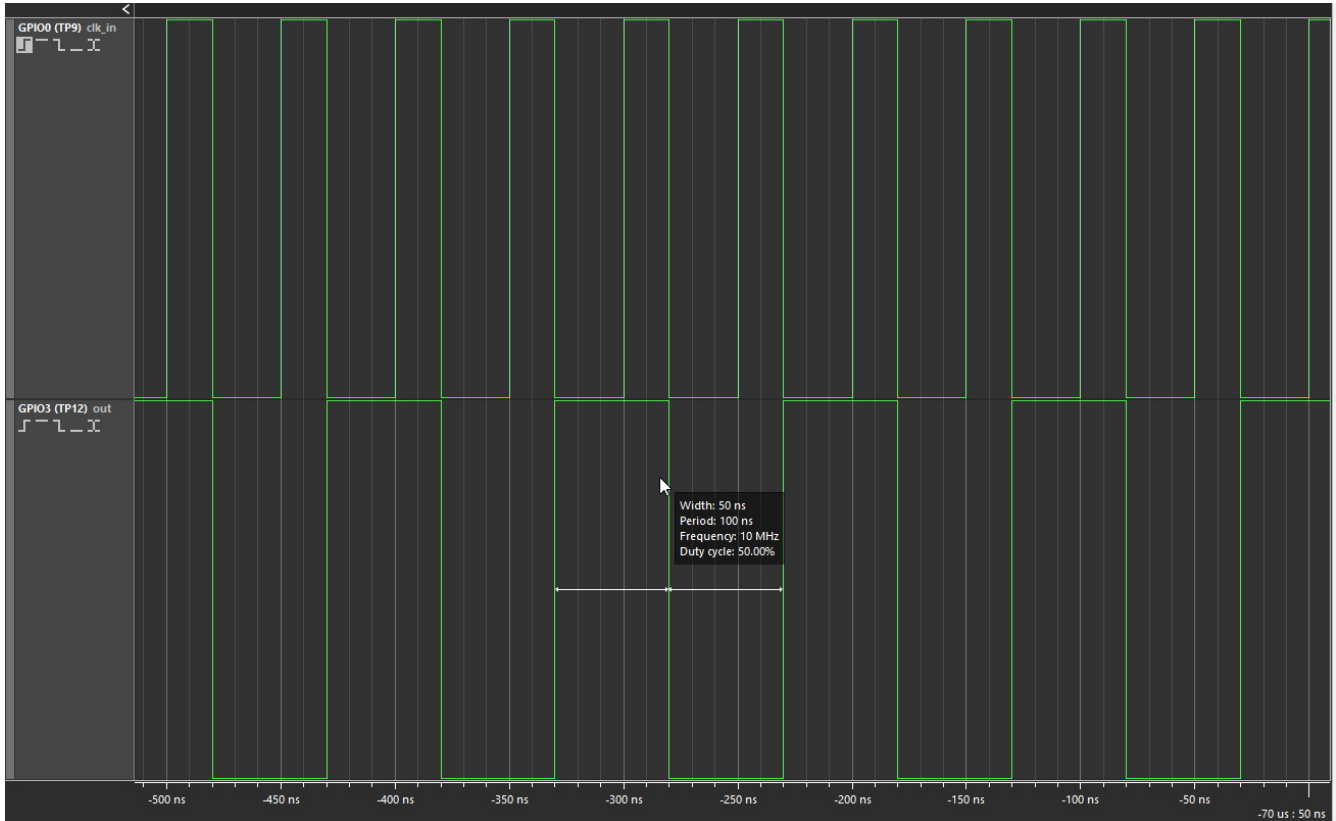

Figure 4: Waveform using External Clock
9. Connect the GPIO0(clk_in) to the Synchronous Logic Generator and produce 1 MHz clock frequency on it and observe the output from GPIO3 on built-in Logic Analyzer(Figure 4). The input frequency will be divided by two due to flip-flop connected to the output.